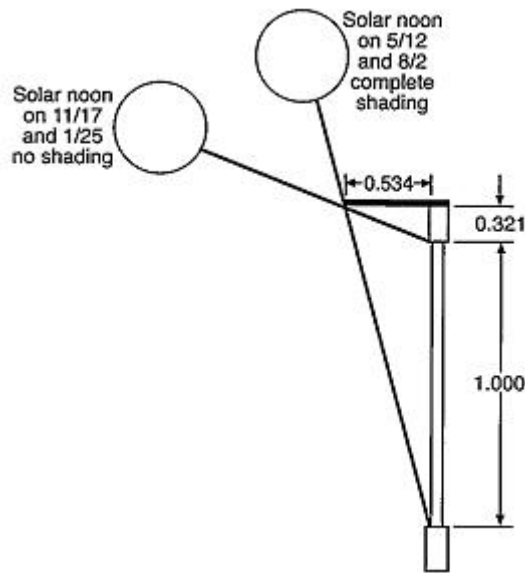

Figure 1. Shading Geometry and Sun Positions for 40° North Latitude
**Roof Overhangs** are a simple architectural feature which can be used on the south side of the house to block direct sunlight from windows in the summer without reducing the available sunlight in winter. This is possible because (in the northern hemisphere) the sun is higher in the sky in the summer, and thus blocked by the roof overhang, but it is lower in the sky in the winter, allowing direct sunlight to pass beneath the overhang. This is illustrated in Figure 1 below. Overhangs do not work as effectively for east or west facing windows, because the sun is low in the sky in the east in the morning and in the west in the evening, even in the summertime.
Figure 1 came from reference #4 for this course, *Solar Radiation Data Manual for Buildings*, published by the National Renewable Energy Laboratory (NREL), and available for free download at the website: